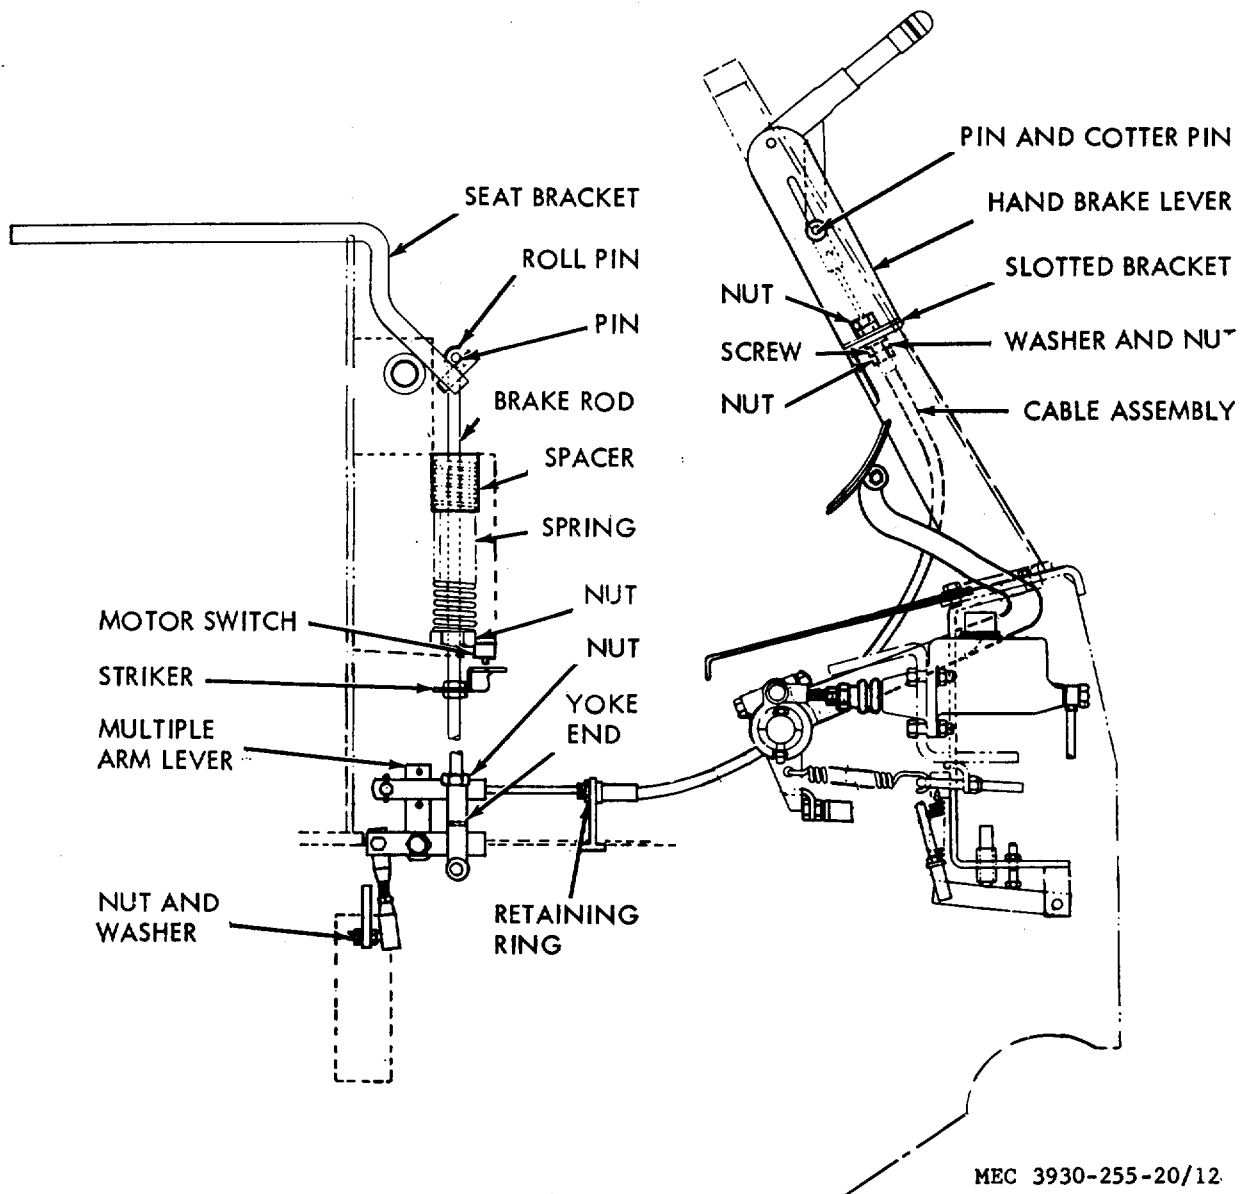

Figure 12. Service and parking brake controls.
- (1) Release handbrake, and remove screws, nuts, and washers which attach handbrake lever (fig. 12) to bracket on steering column.
- (2) Remove cotter pin and clevis pin attaching handbrake cable assembly to handbrake lever, and remove lever.
- (1) Run down large nut (fig. 12) under spring, until spring tension is relieved.
- (2) Drive out roll pin and remove pin from eye at top of brake rod.
- (3) Loosen jamnut on lower end of brake rod at yoke, unscrew rod from yoke and remove rod with striker, spring, and spacer attached.
e. *Brake Rod Installation.* Install spacer, spring, striker, and nuts as shown in figure 12, on rod, and reverse procedures in d above.
- (1) Adjust spring tension raising seat to suit operator, by turning large nut beneath spring.
- (2) Adjust position of motor switch striker, with seat bottomed as by operator's weight, so motor switch is definitely actuated. Run two striker jamnuts up or down rod to position striker.